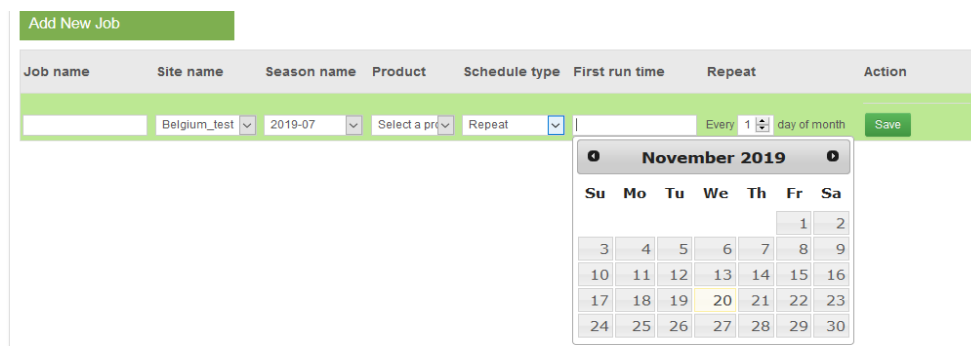

Figure 4-21. Adding “Repeat” scheduled type
- “Repeat” – this option allows to schedule a task at a certain date and then to reschedule the task at a certain day of the month (Figure 4-21). For example, a configuration with the start date of 1st of March and “On every” set to 4 will execute first on 1st of March, then on 4th of March, then on 4th of April, then on 4th of May and so on.